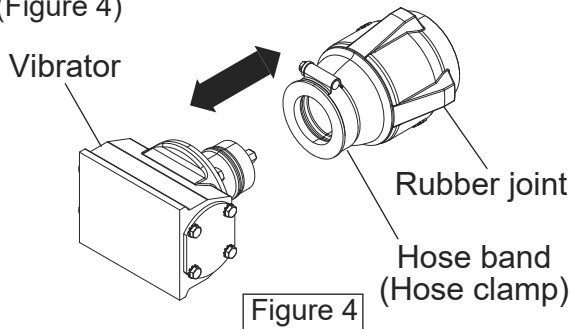

Figure 4
2. Remove the vibrator from the rubber joint by loosening the hose band (hose clamp). (Figure 4)
4. Install the vibrator until end of the rubber joint. (Figure 4)